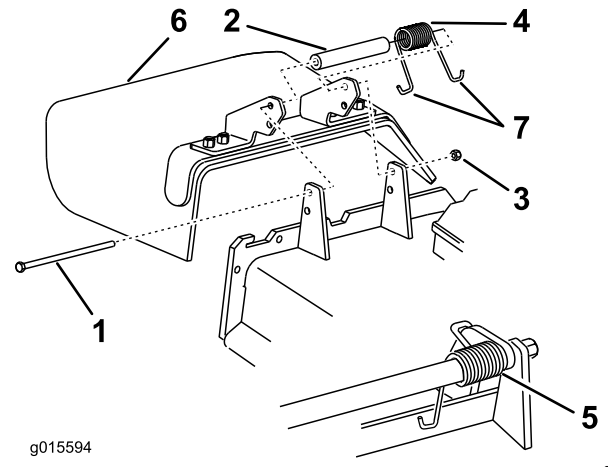

Figure 126
1. Remove the locknut, bolt, spring, and spacer holding the deflector to the pivot brackets (Figure 126).
2. Remove the damaged or worn grass deflector (Figure 126).
Note: Make sure that 1 J-hook end of the spring is installed behind the deck edge before installing the bolt as shown in Figure 126.
6. Place 1 J-hook end of the spring around the grass deflector (Figure 126).